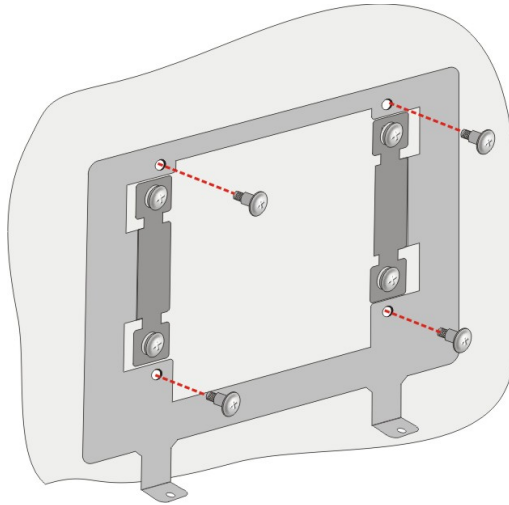

Figure 3-5: Secure Mounting Screws
Step 3: Insert the four mounting screws (M4*6) came with the panel PC into the four screw holes on the mounting bracket and tighten until the screw shank is secured (**Figure 3-5**).